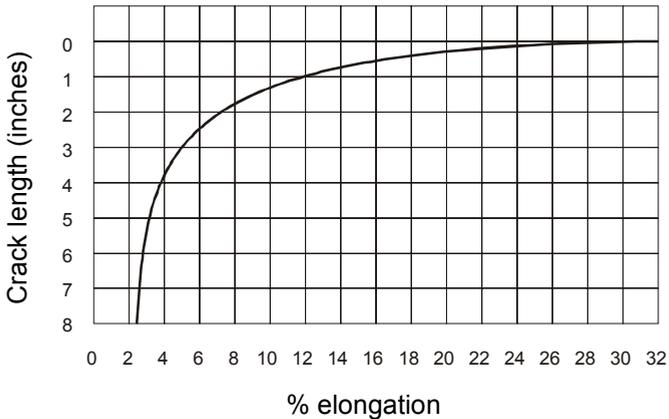
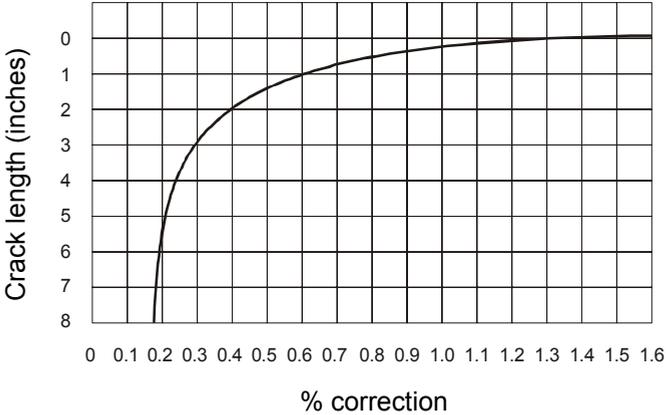

Figure 2. Crack length versus % elongation - Cold rolled steel, 0.8 mm (1/32") thick, 25 μ m (1 mil) coating
Figure 3. Crack length versus % elongation correction value - per 25 µm (1 mil) coating thickness
If required, use the curve shown in Figure 2^a to determine the elongation of the coating.
a. The curves shown in Figure 2 and Figure 3 are reproduced from ASTM D 522
If necessary, adjust for coating thickness; add the correction value obtained from the curve in Figure 3 to the percentage elongation obtained from the curve in Figure 2.